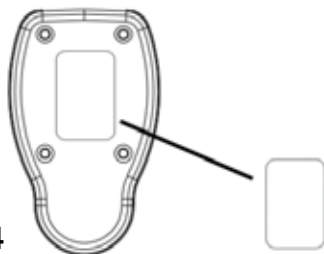

Fig. 4
3. Put the hole plug (in the package bag) to the side of fixture (Fig 4).